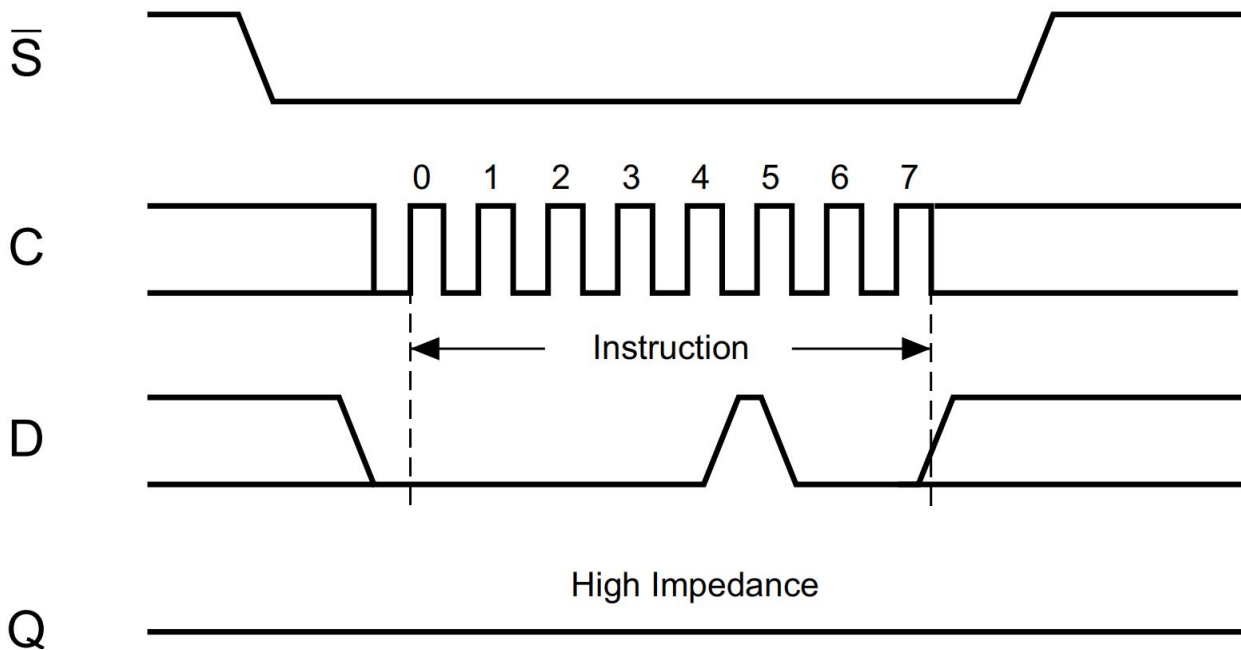

Figure 7. Write Disable (WRDI) sequence
As shown in Figure 7, to send this instruction to the device, Chip Select (S) is driven low, and the bits of the instruction byte are shifted in, on Serial Data Input (D).